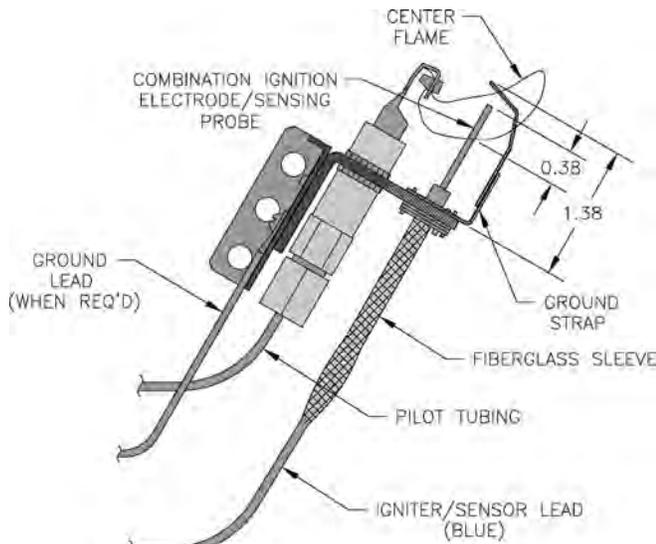

Figure 24: Pilot Burner Flame
H. Check pilot burner flame. See Figure 24. Flame should be steady, medium hard blue enveloping 3/8 to 1/2 inch of sensing probe.